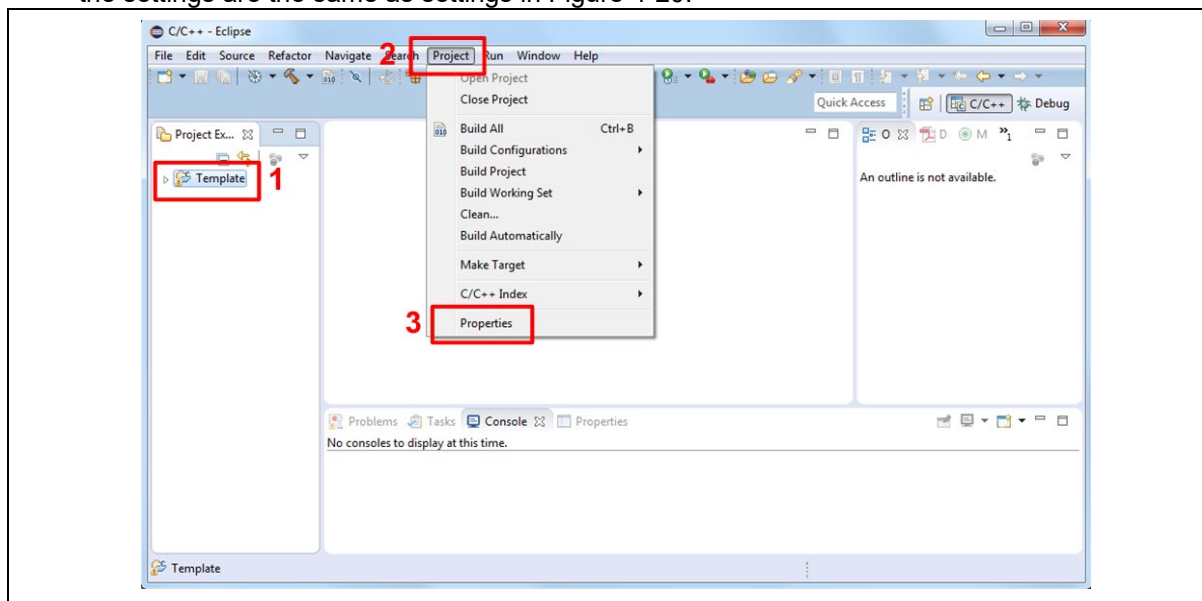
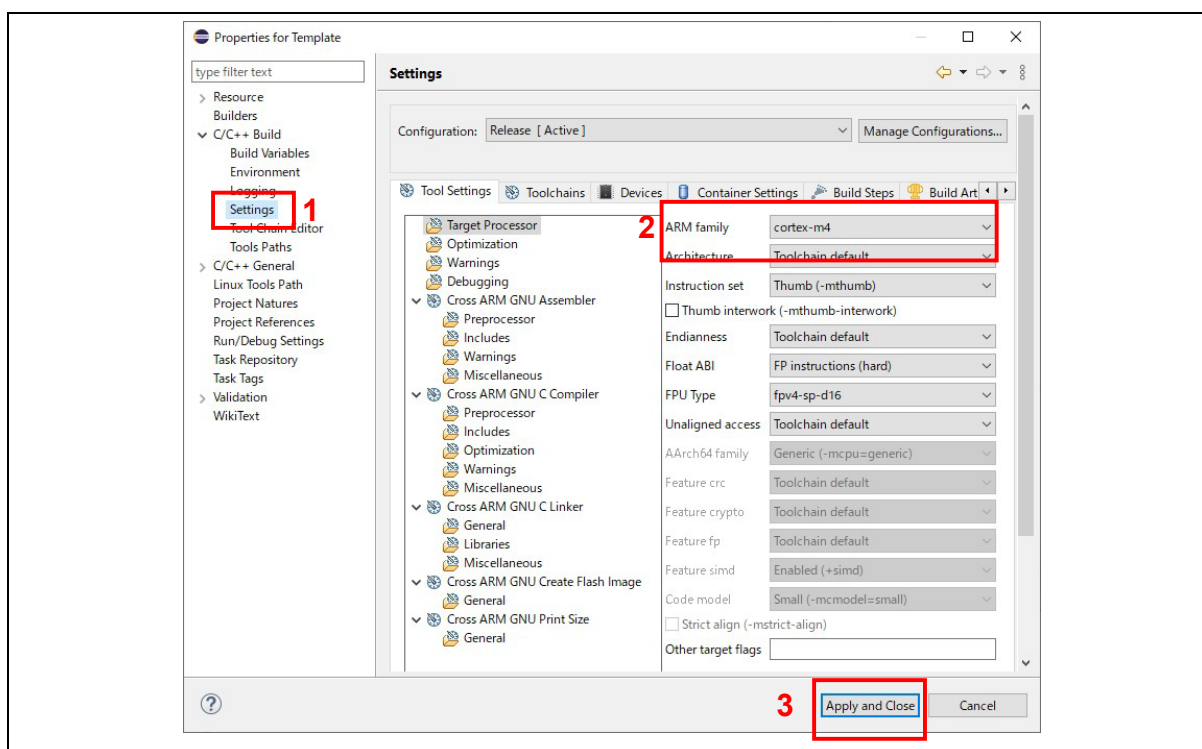

Figure 4-19 Open Project Properties Window
Figure 4-20 Project Properties Settings
- Click the “Template” project and find the project properties as shown in Figure 4-19. Make sure the settings are the same as settings in Figure 4-20.